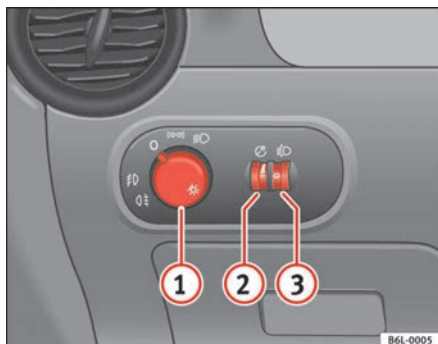

Fig. 56 Detailed view of dash panel lights, fog light and rear fog light control
- Turn the light switch  $\Rightarrow$  fig. 56 to position 1.